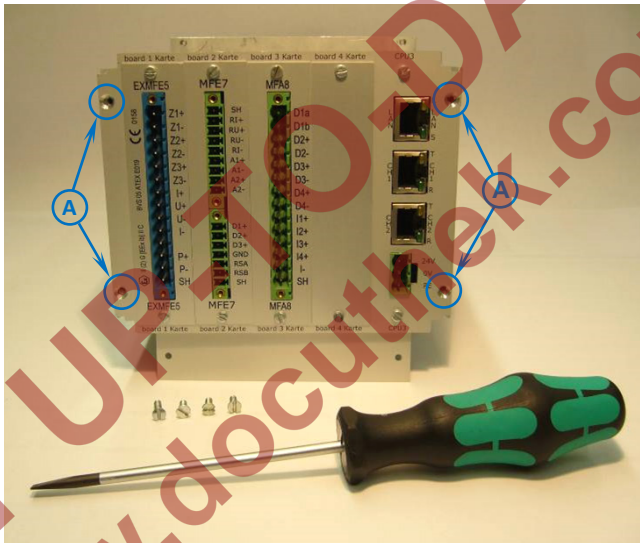

Fig. 6-2: Rear side of the device (example), mounting screws are removed
- ▶ Insert the board with the side meant for the process connection in the slot on the rear panel (blue plug for Ex boards, otherwise green plug, ⇒ Fig. 6-2).
- ▶ Close the device with the help of the 4 mounting screws (Positions A in Fig. 6-2).